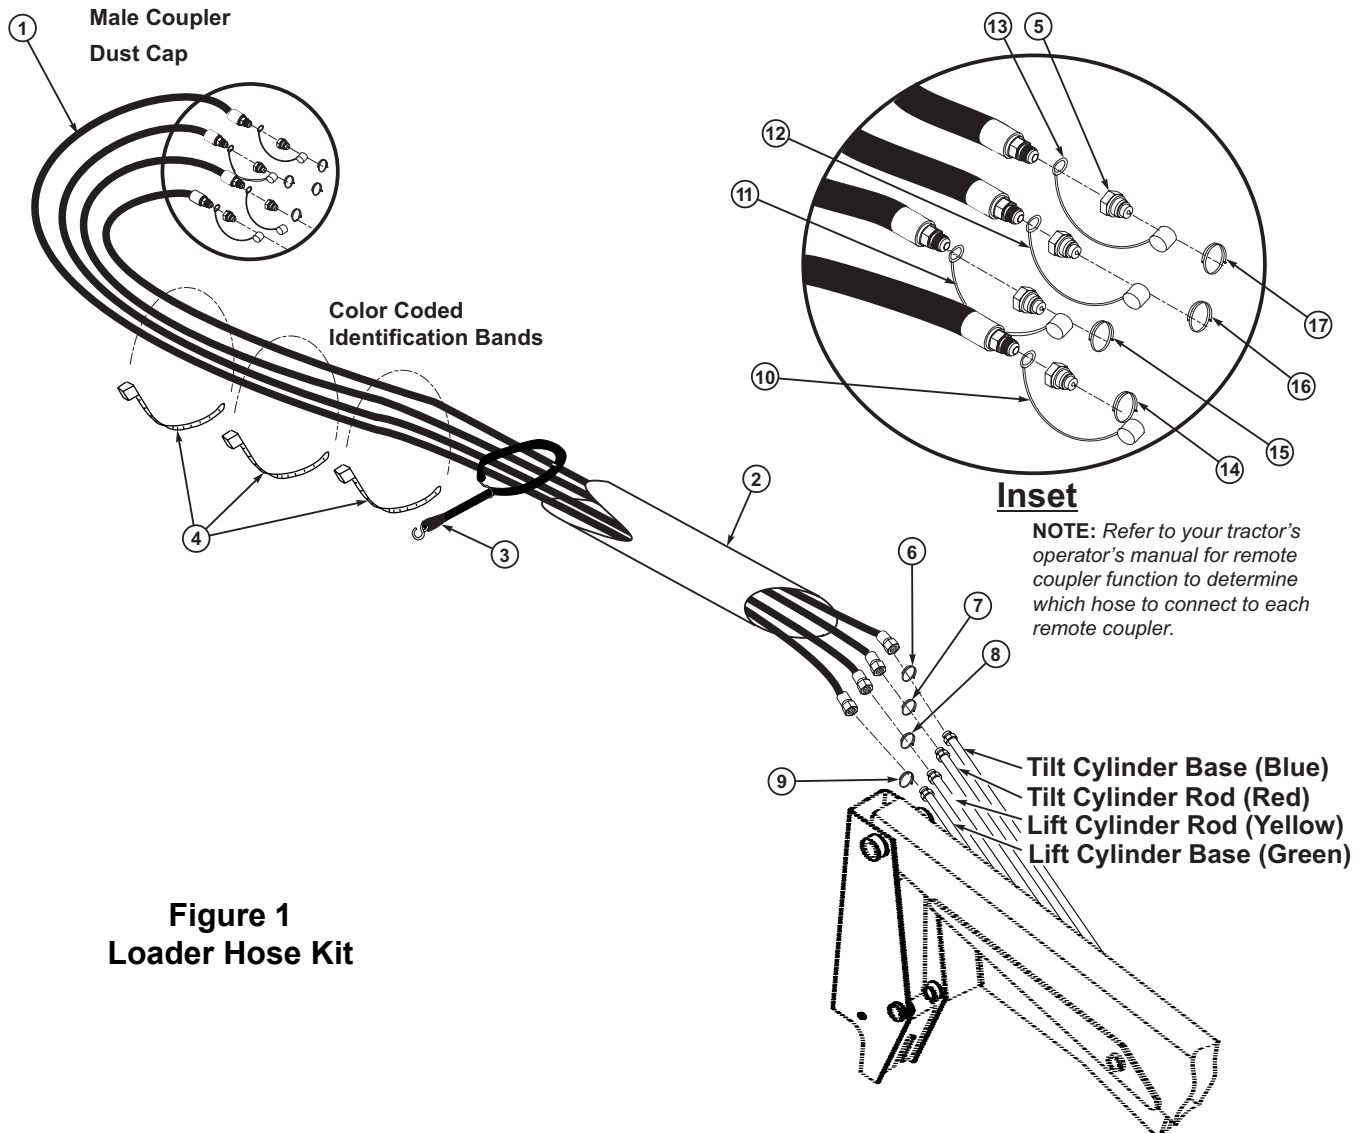

Figure 1
PLUMBING LOADER TO REAR REMOTE VALVE (Figure 1)
1. Starting at bottom and working upward, install female end of 1/2 x 170" hose (1) onto oil line tubes.
2. Install 5/8" diameter color coded bands (14, 15, 16 & 17) onto female ends of hoses (1), attached to boom oil line tubes, in sequence as shown in figure 1.
(Figure 1) (Continued)**